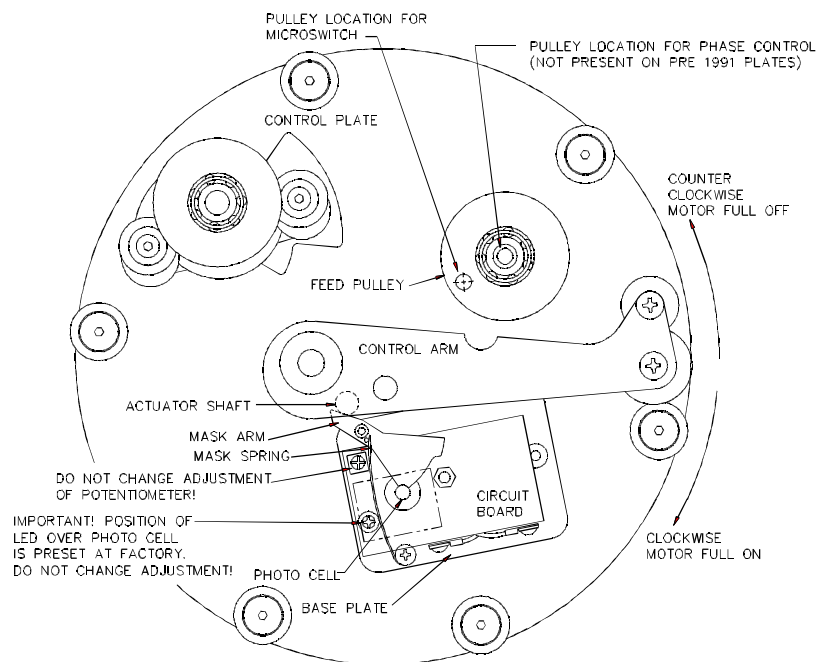
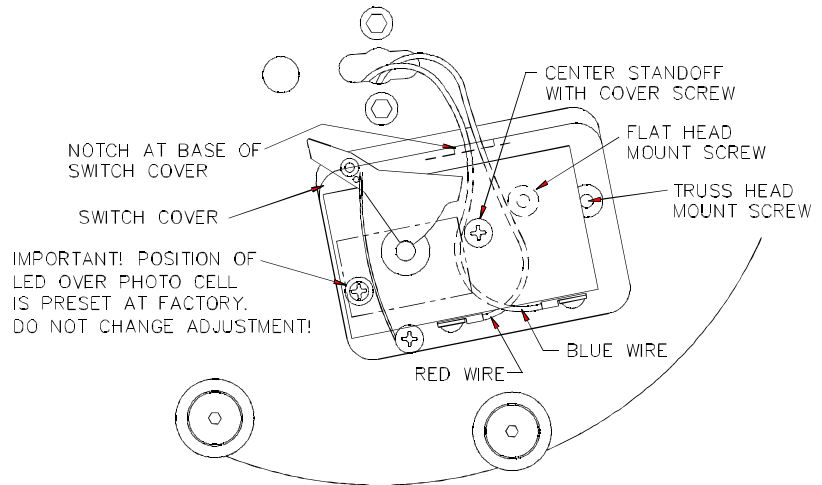

Figure 1
Figure 2
3. Relocate the feed pulley to the hole designated for use with the Phase Control (See Fig. 1). This hole is not present on Control Plates manufactured before 1991. The Phase Control will still function if the feed pulley is not moved, however best operating results will be obtained if it is moved. Part number 1843 (Drill Template Kit) is available if you need to add the hole.
4. The actuator shaft (See Fig. 1) on control plates manufactured before 1991 is made of plastic. Using a steel shaft here will improve the performance of the Phase Control. Order part number 1265 (Shaft), and part number 1069 (Screw) to replace the plastic shaft.
5. Remove the screw and washer from the Phase Control cover. Position the Mask Arm in the center of its vertical slot and remove the cover. Position the uncovered Phase Control on the Control Plate and route the red and blue wires between the Base Plate and the Circuit Board, one on either side of the center standoff, and connect the wires to the switch (See Fig. 2). **The Phase Control will not function correctly if the wires are reversed.**
6. Use the two mounting screws provided to attach the Phase Control to the Control Plate. Be sure the Mask Arm is located correctly in relation to the Actuator Shaft (See Fig. 1). The flat head screw goes in the mounting hole closest to the center standoffs. The truss head screw goes in the mounting hole closest to the edge of the Phase Control (See Fig. 2).